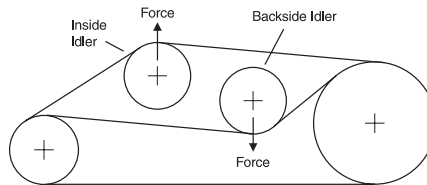

Figure 8 - Idler Force
**Idler Force:** Belt installation tension can also be applied by exerting a force against an idler sprocket within the system that is used to take up belt slack (see Fig. 8). This force can be applied manually, or with a spring. Either way, the idler should be locked down after the appropriate tension has been applied.